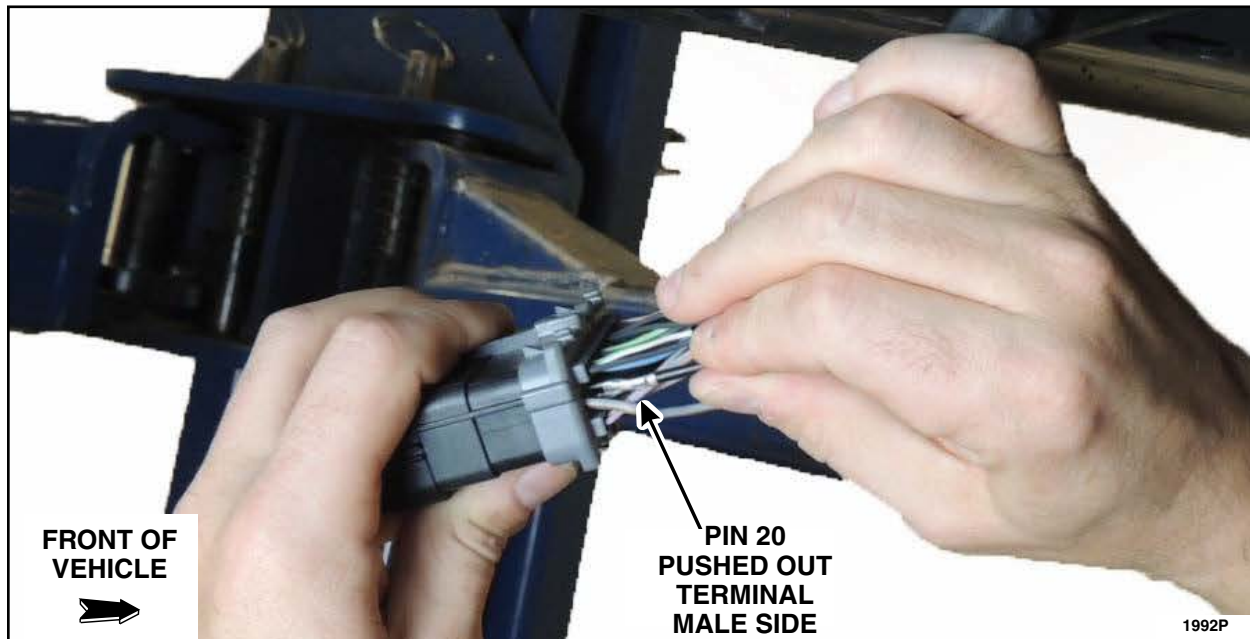

FIGURE 15
15. Were any of the wires in the center row of terminals on the male or female side of C422 pushed out of the connector hard shell and/or did the volt/ohm meters audible tone either stop or intermittently break up as you pulled on pin 20 (BK wire) in Step 11? See Figure 15.